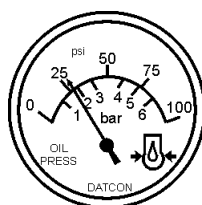

Figure 49. Oil
9. The engine oil pressure gauge (Figure 49) will indicate the oil pressure of the engine. Under normal operating conditions the oil pressure is approximately 44 to 73 psi. (303~503 kPa). When starting the genera